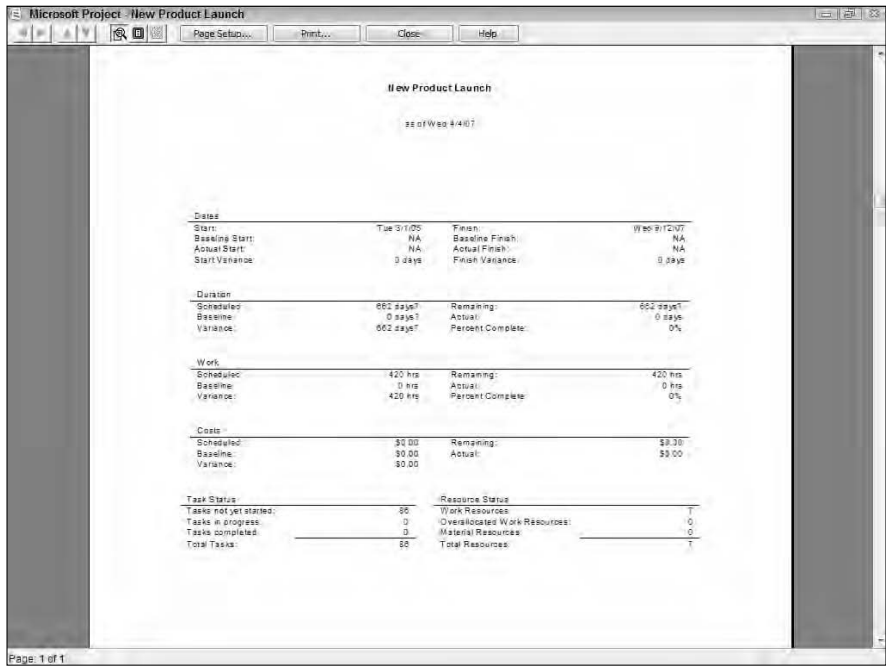

Figure 4-3: Printing your Gantt Chart or another view can help document issues.
- ◆ Use reports or print views to show your management these various scenarios or alternative project plans (see Figure 4-3). Project Visual Reports can help you make a strong impact on your audience.